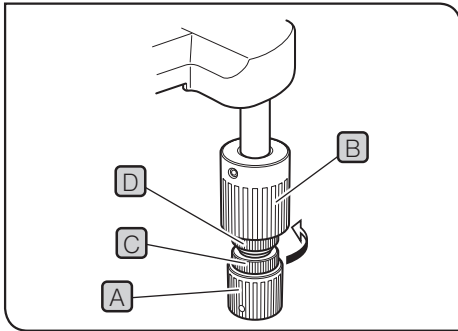

Fig.27
**3 Adjusting the X- and Y-Axis knob tension (Fig.27)**